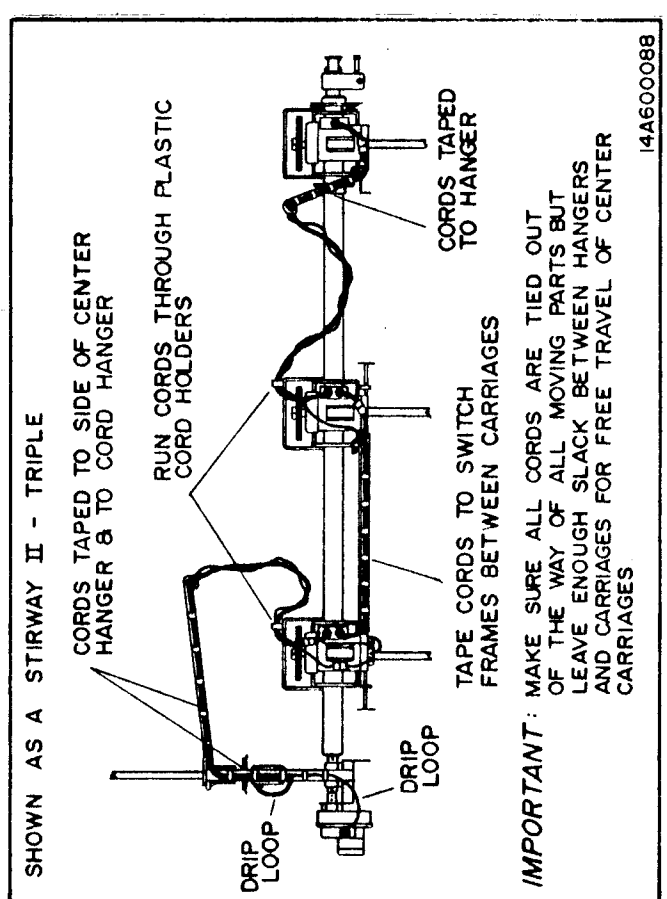

FIG. 16 - ACTUAL CORD CONNECTIONS
4. Run cords through plastic cord holders as shown. Run connecting cords across switch frames. Tape cores out of way of all moving parts. See Figs. 16 & 20 for examples. Leave enough slack in cords so carrier can travel entire length of crosstube.